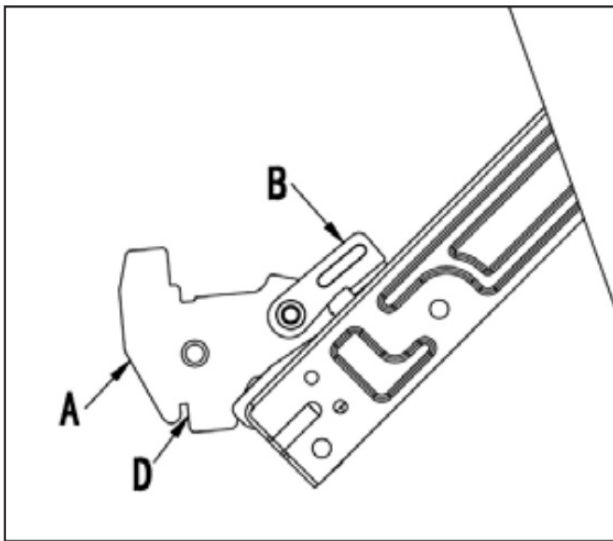

Fig 1
- › Open the door completely and lift the 2 levers “B” (Fig.1);